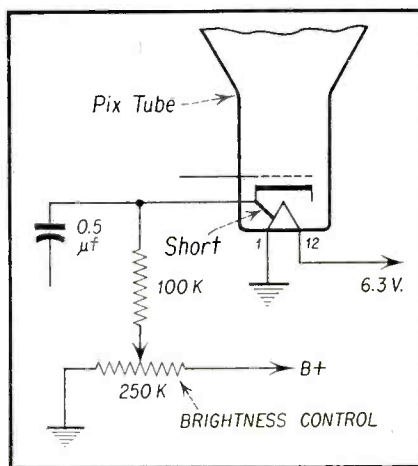

Fig. 1—Full or partial short between cathode and filament of picture tube affects brightness control action.
definite, low resistance or perhaps even a direct short (zero resistance). This internal short between the cathode and filament grounds the positive cathode voltage at the filament ground connection (pin #1) and therefore no variation of cathode voltage with the brightness control is possible. See Fig. 1.
Fig. 1—When a signal is applied to the input terminals of an AC scope, only the AC voltage in the signal appears on the scope screen. Any DC voltage which may be present is eliminated by the AC scope circuits. The resting position of the scope trace shows the AC zero-volt level. The AC signal voltage distributes itself with equal positive and negative areas above and below the AC zero-volt level. The zero-volt level is the resting position of the scope trace.
- A The two photos shown in Figs. 1 and 2 illustrate several advantages of a *dc* scope, as compared with an *ac* scope. These photos were made by double exposure, to show the position of the signal with respect to the zero-volt level (resting position) of the scope trace.